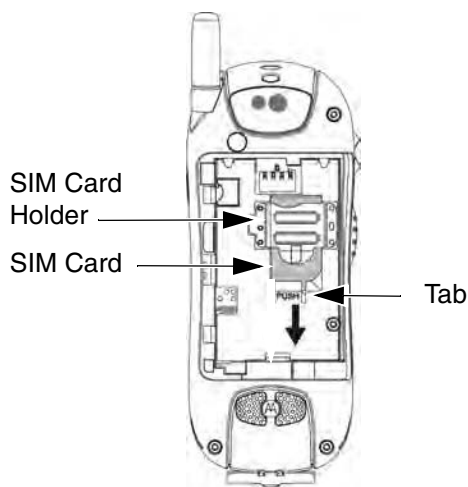

Figure 1-3. Removing a SIM Card
Inbound transmission bursts (sent from the unit) are offset 19 milliseconds from the outbound burst; the inbound burst begins 4 milliseconds after the end of the outbound burst (see Figure 1-3 on page 1-6). This offset in time allows the unit to appear capable of transmitting and receiving at the same time (it actually is switching rapidly back and forth between receiving and transmitting).
3. Gently press the tab near the bottom of the SIM card holder as shown in Figure 1-3.